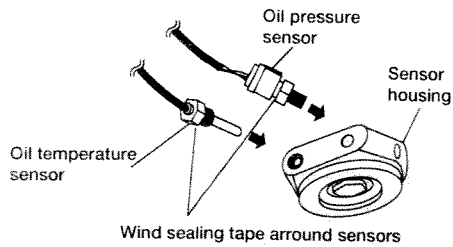

Figure 3-4
4. Wrap sealing tape around the entire section of threaded part of the oil pressure sensor and the oil temperature sensor, be sure not to cover pressure hole and end of sensor. Connect these sensors to the sensor housing. (Figure 3-4)